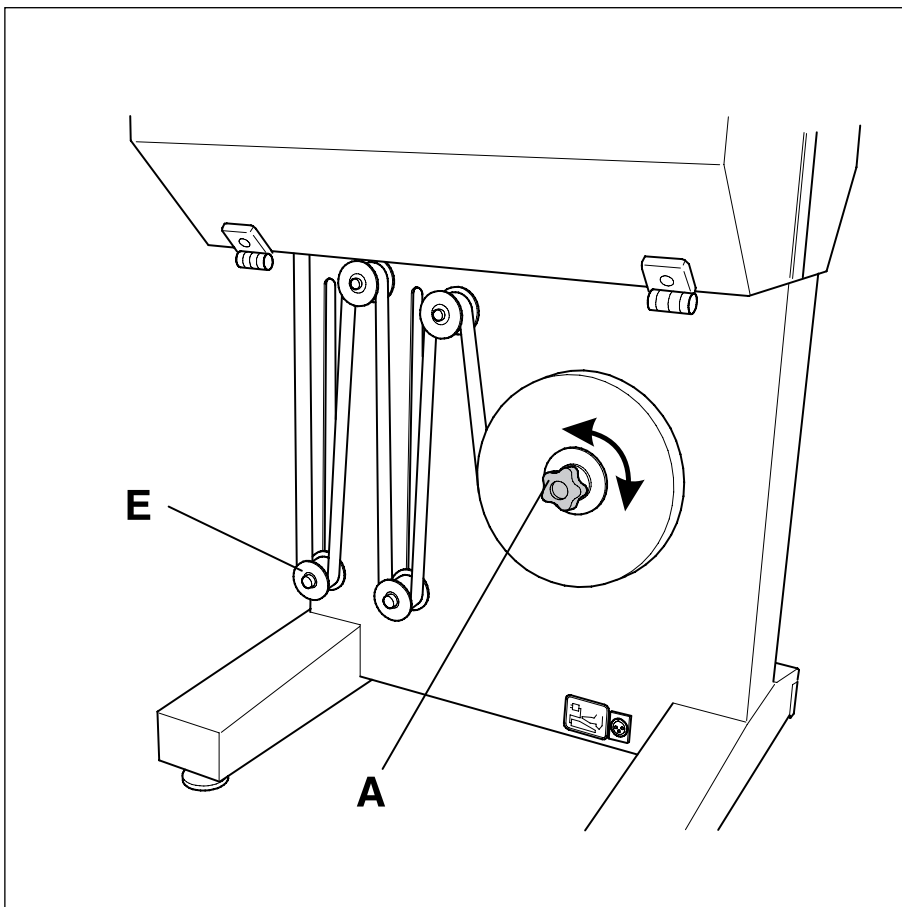

Fig. 3
Turn the black knob counterclockwise to loosen it. Then remove the core of the old reel. Place a new reel on the holder in such a way that it unwinds as illustrated on fig. 3. Press the cardboard of the reel backwards as far as it will go.
Feed the tape around the plastic rolls as illustrated on fig. 3 and then feed it through the brake-clamp (B). Feed the end of the tape under the green button at the left side of the machine (C) and hold the tape (D) by pressing the green button with one hand.